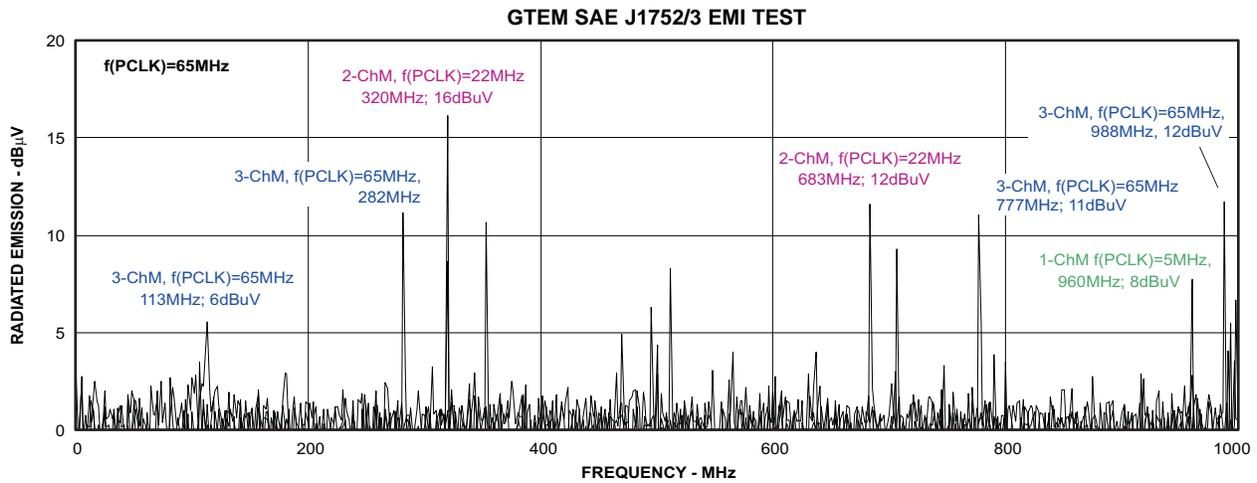

Figure 35.
- A. Figure 35 shows a superimposed image of three EMI measurements with the device operating at $f(\text{PCLK}) = 5\text{MHz}$, $f(\text{PCLK}) = 22\text{MHz}$, and $f(\text{PCLK}) = 65\text{MHz}$. This excellent EMI performance meets the system requirements of dense, mobile designs with a noise floor of $\sim 2\text{ dB}\mu\text{V}$ ($\sim 105\text{ dBm}$) and all spurs being smaller than $16\text{ dB}\mu\text{V}$ ($\sim 101\text{ dBm}$). The test was performed in compliance with the SAE J1752/3 EMI test guidelines.